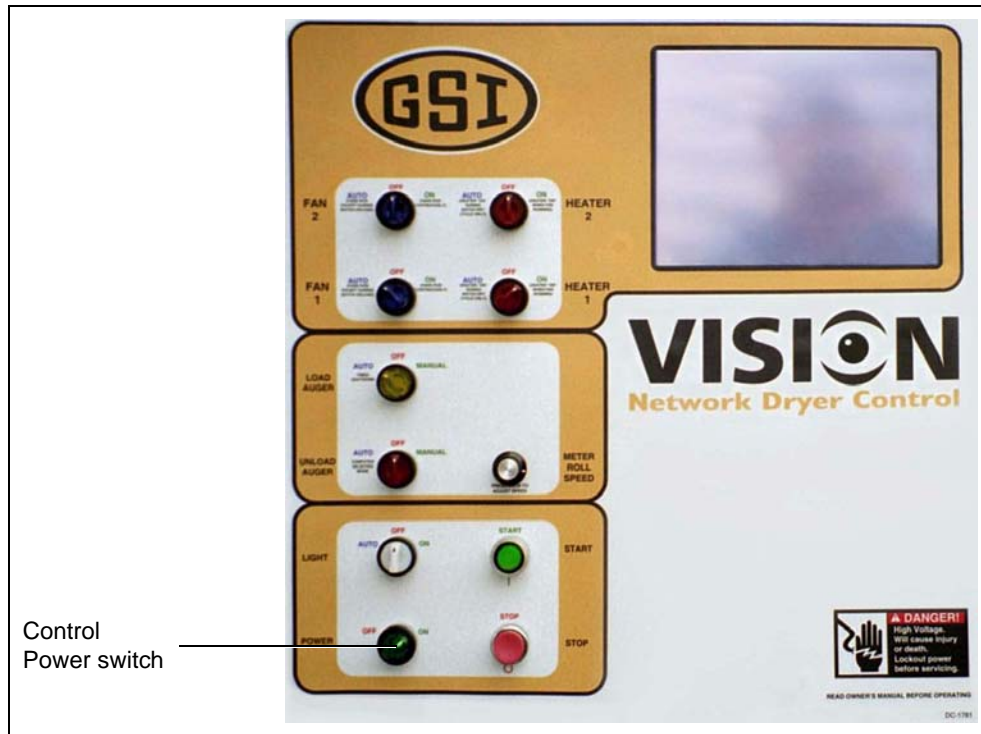

Figure 4B
1. Cycle the Control Power switch. The Vision computer will start. (See Figure 4B.)